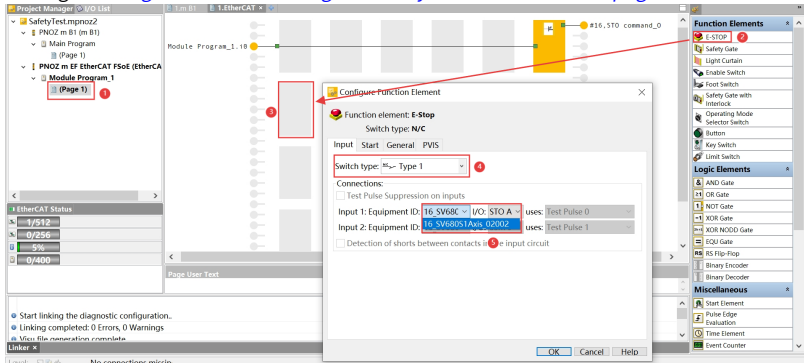
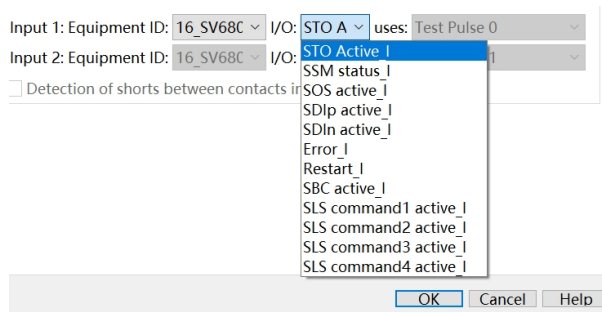

Figure 14-23 Configuring FSoE output
Figure 14-24 Selecting the safety function status
- i. Switch to the module program page, drag the emergency stop button function block into the leftmost rectangular blank slot, select the switch type as Type 1, and Device ID as 1_SV680S1Axis_02002, as shown in "Figure 14-23 Configuring FSoE output" on page 339. Select the safety function output status corresponding to step c for the "Input/output", and click the **OK** button at the bottom of the window to complete the setting. See "Figure 14-24 Selecting the safety function status" on page 339.